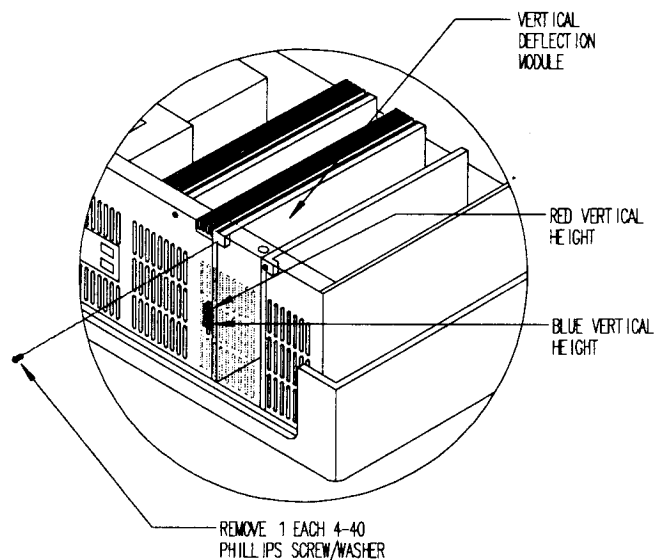

FIGURE 9-10. Vertical Deflection module replacement.
- STEP 6. Using Green or Red as your reference color, adjust the Blue Vertical Height control as described in STEP 5. See Figure 9-10